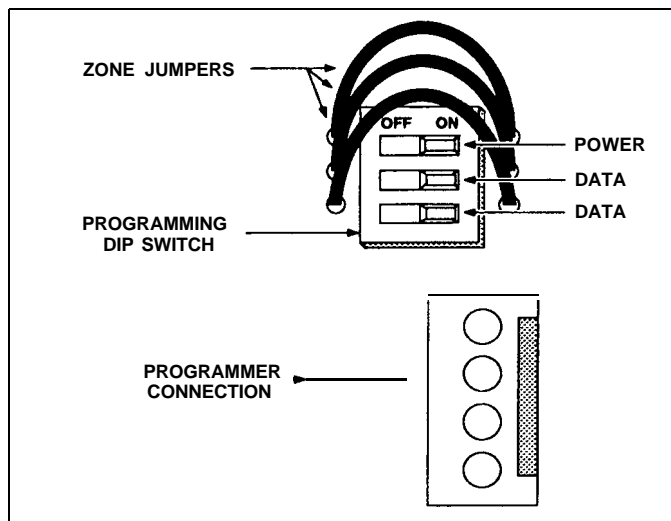

Figure 7: PROGRAMMING DIP SWITCH
10.2 Switch **Power** and both **Data** switches on the D636A Programming Dip Switch (see Figure 7), to the OFF position.